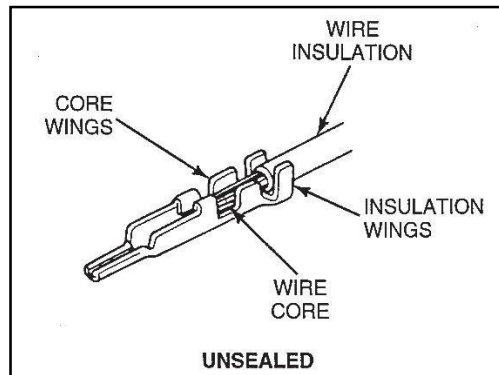

Figure 12
4. Place wire in terminal core and insulation grip wings. There should be enough core exposed so that it extends just beyond the end of the core grip wings on both sides, with the insulation lying between the insulation wings (see Figure 12).